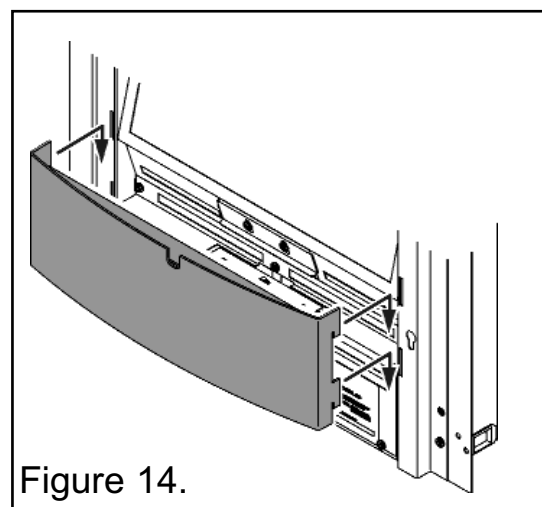

Figure 14.
2. Locate the four tabs on the rear of the infill trim into the four slotted holes in the heater (See figure 14).